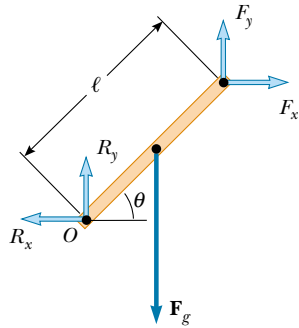

Figure P12.2
2. Write the necessary conditions of equilibrium for the body shown in Figure P12.2. Take the origin of the torque equation at the point O .